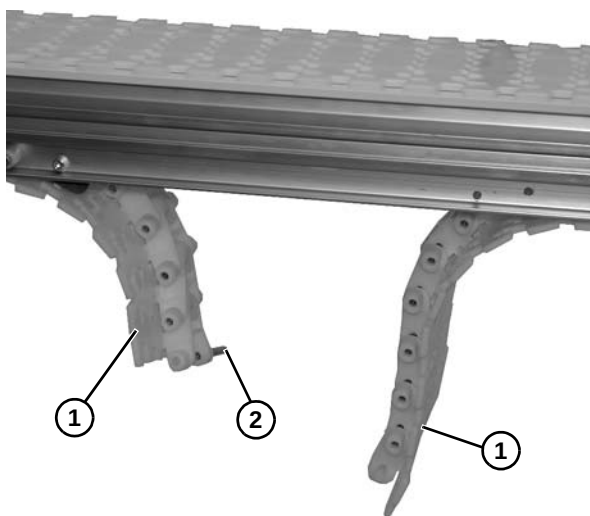

Figure 23
- Install belt around drive end of conveyor and bring the ends (**Figure 23, item 1**) of the belt together.
- Insert rod (**Figure 23, item 2**).